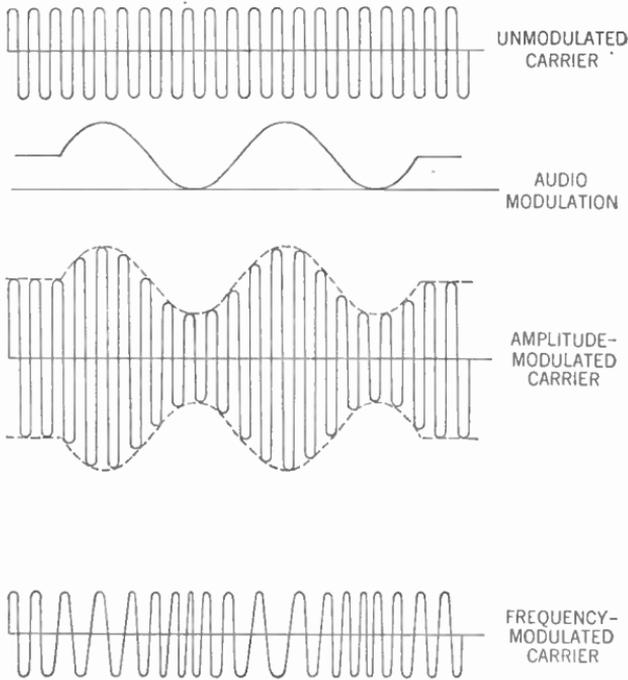

Figure 480. Comparison between the amplitude-modulated and frequency-modulated carrier.
Figure 480 illustrates how the frequency-modulated carrier wave differs from the amplitude-modulated carrier wave. In both cases, the audio modulation is impressed on the unmodulated carrier. In the case of the amplitude-modulated (AM) wave, the *amplitude* varies in step with the audio modulation, but the frequency remains constant. In the case of the frequency-modulated (FM) wave, the *frequency* varies in step with the audio modulation, but the amplitude remains constant.
The greater the amplitude of the audio modulation (the louder the sound entering the microphone), the greater the frequency variation, or *deviation*, of the FM carrier. The number of such frequency variations per second is determined by the frequency of the audio modulation. In Figure 480, two